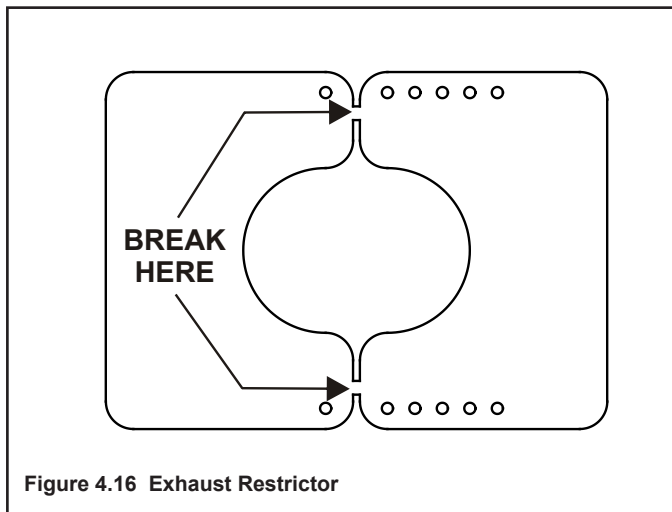

Figure 4.16 Exhaust Restrictor
2. Break the exhaust restrictor into two pieces. Do this by bending the part back and forth until it breaks (see Figure 4.16).